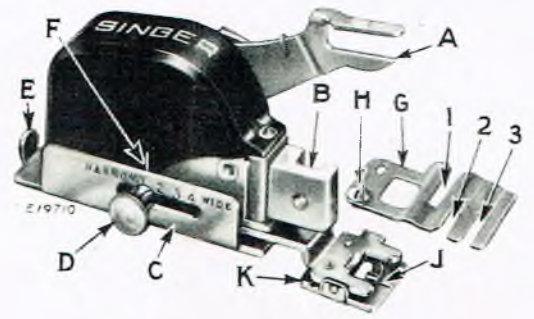

Fig. 2
(See Figs. 2 and 3)
The width of the zigzag stitch is controlled as follows: (1) Raise the presser foot to relieve strain on adjusting parts, (2) loosen thumb screw **D**, (3) grasp handle **E**, **Fig. 2** and move regulator **C** forward or backward until the desired number on the regulator is opposite the line **F** on the cover, (4) tighten thumb screw **D**. No. 4 indicates the widest zigzag stitch and No. 1, the narrowest.
tightening the screw H. The slots serve as guides for the edges of any material to which the zigzag stitch is applied. See Fig. 2. The edge inserted in slot 1 will be stitched over the edge placed in slots 2 or 3. Either left-hand slot may be used, depending on how much overlap is desired.
When attaching lace, place the edge of the lace in slot 1 and the folded edge of the material in slot 2. See Fig. 2 at front of book. Amount of overlap of lace is adjustable by loosening edge guide screw H and moving the edge guide slightly to the right or left. For joining lace, always use a medium narrow width of stitch.